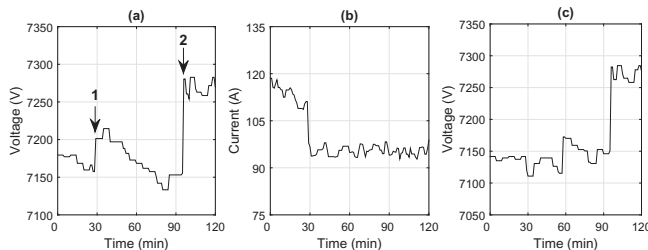

Figure 2.39 Minutely RMS voltage and current measurements in Exercise 2.10.
2.10 Two voltage swell events at a distribution feeder are marked with numbers 1 and 2 in Figure 2.39(a). The current on the *same* feeder and the voltage on a *neighboring* feeder are shown in Figures 2.39(b) and (c), respectively. Specify whether each event is a local event or a nonlocal event.